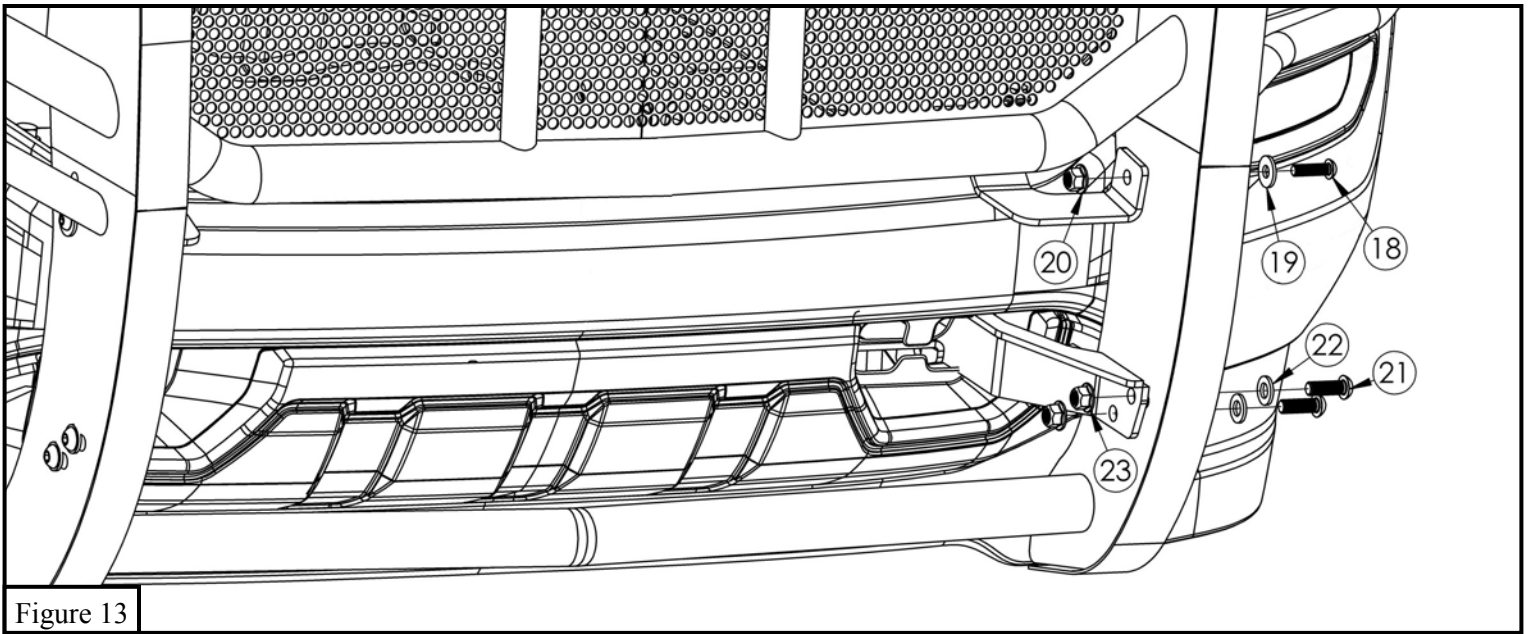

Figure 13
11. With assistance align the Upper Support Straps and Lower Mount Brackets with the HDX Grille Guard and loosely secure using the provided M10 / M12 hardware (Items 18-23). Adjust and align as necessary and then tighten hardware on the vehicle: M12 hardware to 50-55 ft-lbs and M10 hardware 30-35 ft-lbs. **Refer to Figure 13.**
14. With assistance install the HDX Grille Guard onto the brackets using the provided M10 / M12 hardware (Items 18-23). **Refer to Figure 13.**